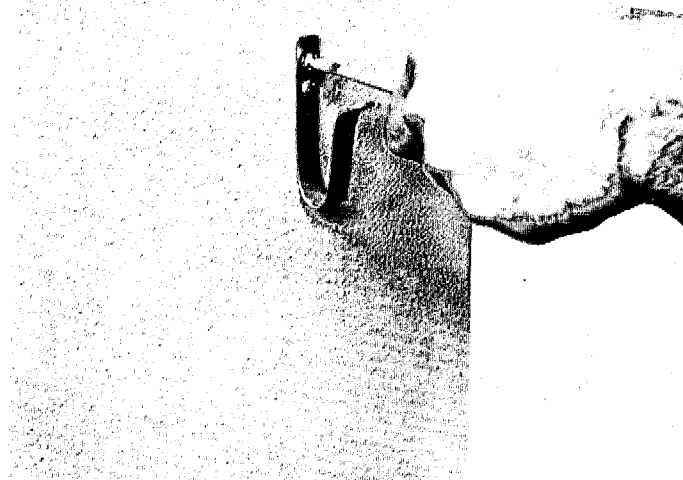

Figure 4 - Installing Power Cord Brace
C.4. If necessary, install the power cord braces on the Body Box (2 places) and Electronics Console (1 place) as shown in Figure 4. These braces may already be in place on some units.